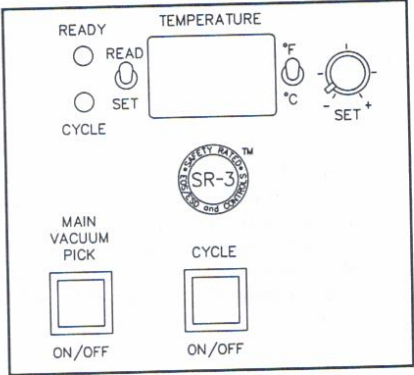

Figure 43.
12. Actuate the **MAIN VACUUM PICK** Switch. Refer to Figure 43.